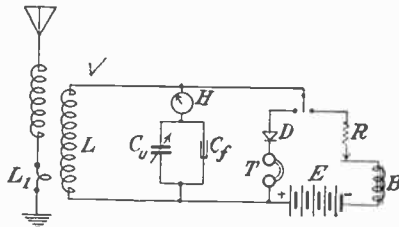

FIG. 70.—Wiring diagram of Kolster decremeter.
*Ans.* A circuit diagram of the Kolster decremeter is shown in Fig. 70.